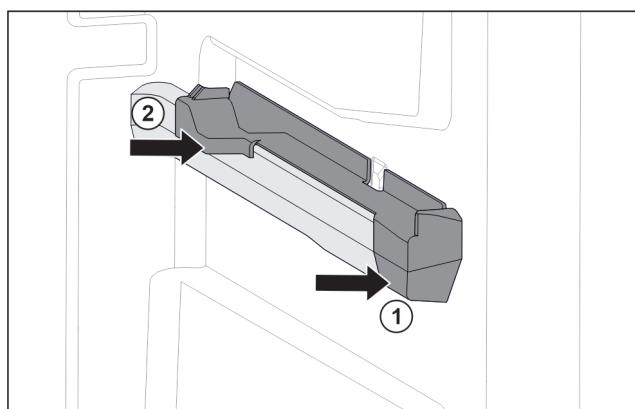

Fig. 127 Attachment on the right moulded rib
- ▶ Position attachment on moulded rib at the front. Fig. 127 (1)
- ▶ Press on attachment at the back. Fig. 127 (2)